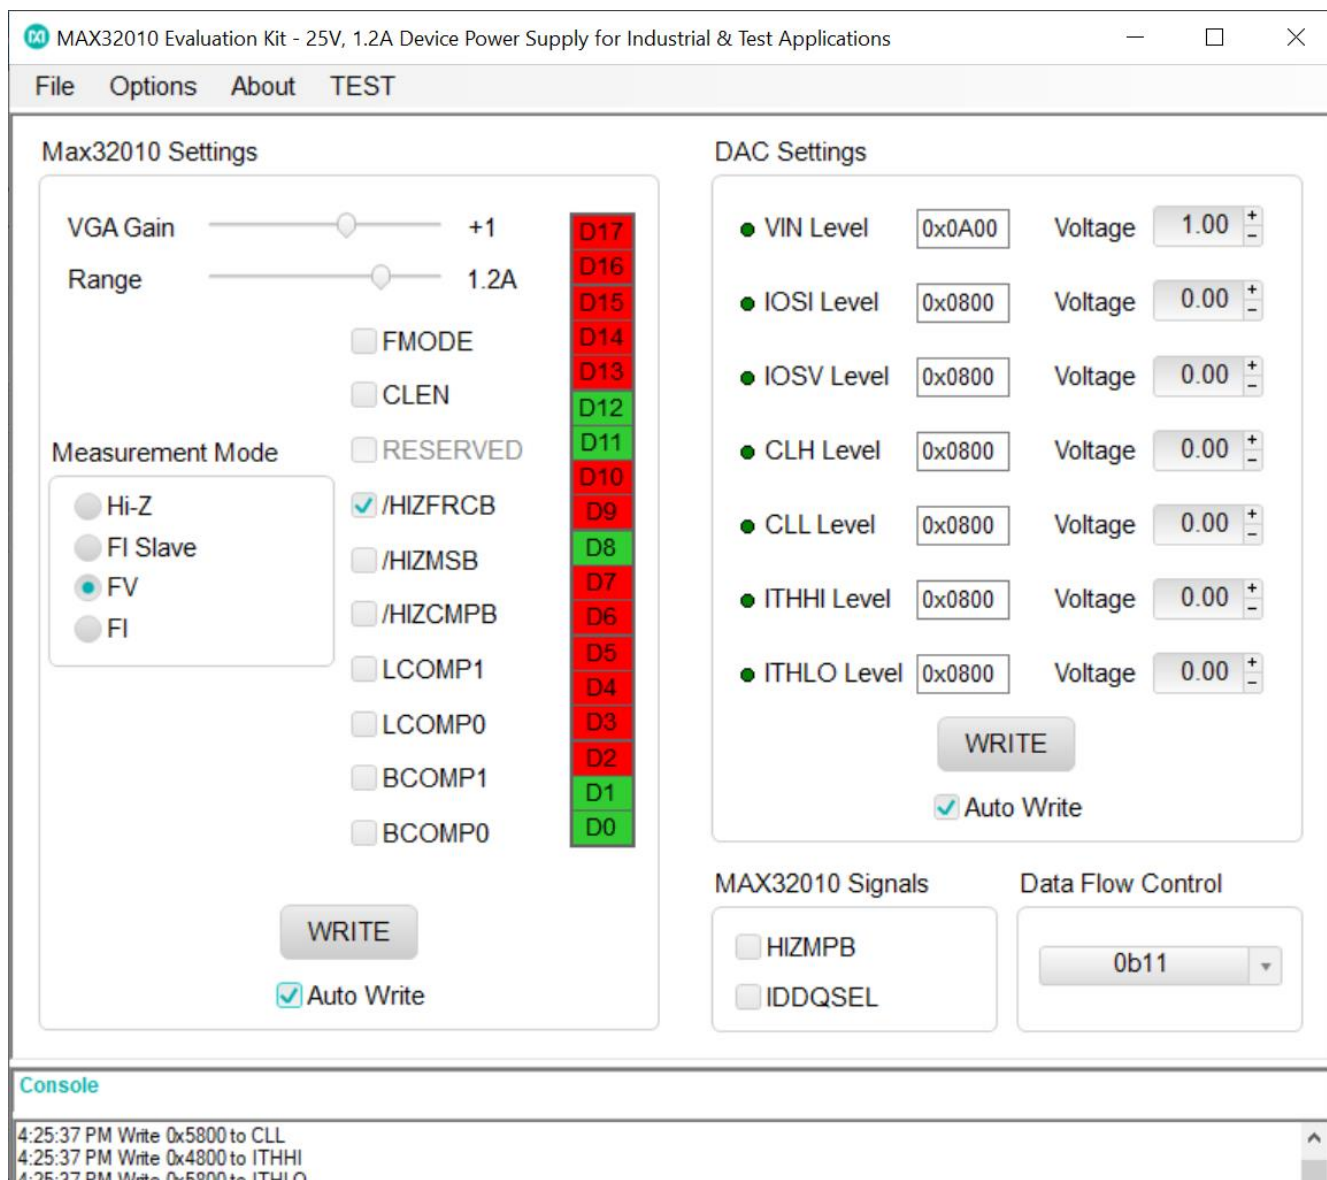

Figure 1. MAX32010 EV Kit Quick Start Settings
- 5) Start the MAX32010 EV kit software by opening its icon in the **Start | Programs** menu. The EV kit software main window appears, as shown in Figure 1.
- 8) Check that the output voltage at DUT_NODE is close to +1V. Figure 1 shows the MAX32010 EV kit quick start settings.
The main window of the evaluation kit software is shown in Figure 1.